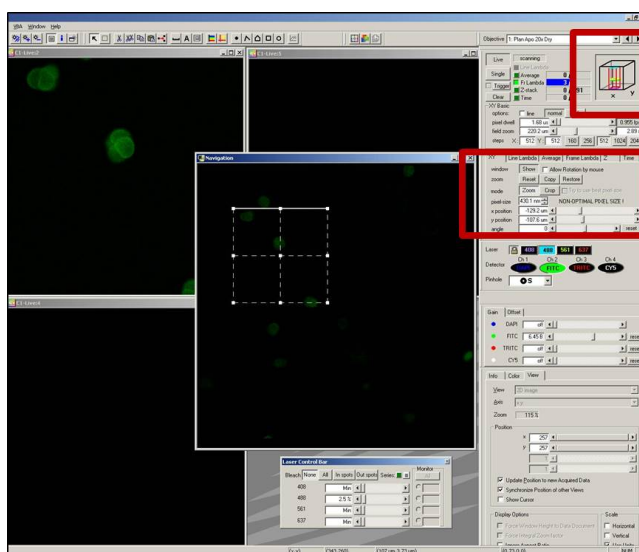

Figure 11: Adjust software zoom.
1. Click on the top right box with the cube in it (Figure 11 top).
4. To zoom out, drag the field zoom bar in the XY window all the way to the right (Figure 11 bottom).